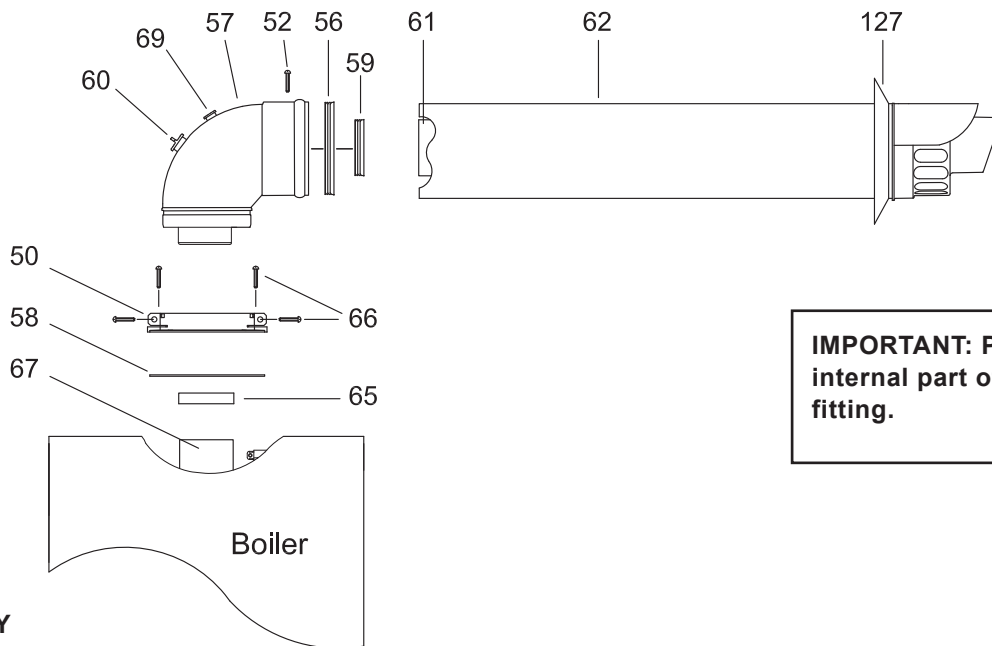

Fig.17
Important: Make sure that the inner 60 mm diameter of the elbow header is inserted fully into the heat exchanger, and the rubber seal is correctly fitted. (Fig 17 item 65)
Important: Make sure that the inner 60mm diameter of the elbow header is inserted fully into the heat exchanger, and the rubber seal is correctly fitted. (Fig 17 item 65)
If an extension must be shortened, this must be done from the straight end, and not from the widened or tapered end. To measure the pipeline properly all components must be assembled and total length measured before cutting. The straight end of the extension connects to the boiler. The flue output and air intake pipes fits into the boiler header until it stops (fig.17 - 18).